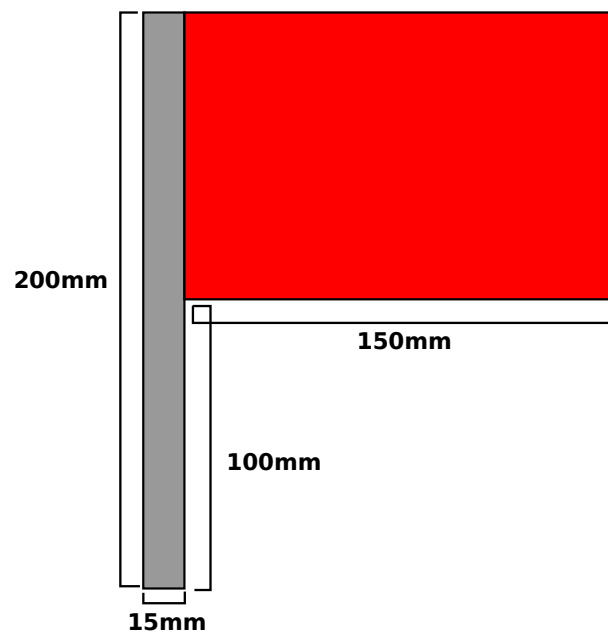

Figure 1: An example robot flag.
3.2.1 A “robot flag” is a removable identifier that will be attached to a robot throughout a match. It features identifying areas to allow spectators to easily associate a robot with its starting area. An example of one of these flags is shown in figure 1. The markings in the identifying areas are intentionally not specified.
3.2.3 The identifying area will be attached to the top  $100\text{mm} \pm 10\text{mm}$  of the mounting cylinder, with a width of  $150\text{mm} \pm 10\text{mm}$ , as described in figure 1.